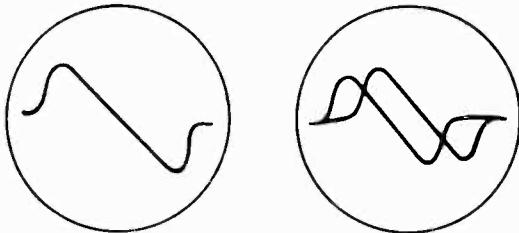

Fig. 6—S Curves
4. Adjust signal generator frequency until "S" curve (Fig. 6) is centered on the